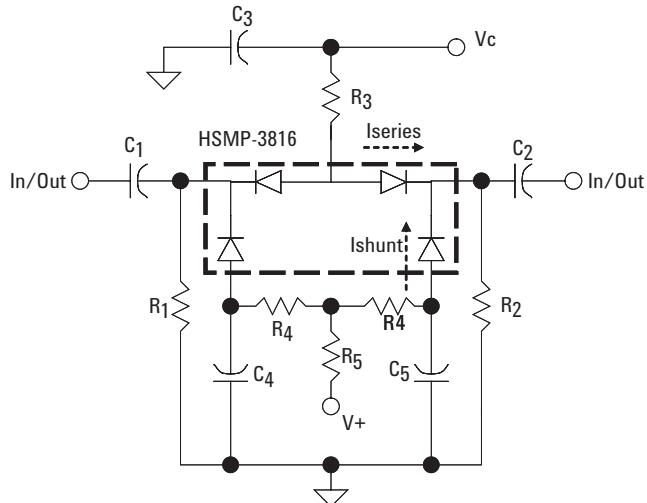

Figure 1. Wideband Quad PIN Diode π Attenuator Circuit
3. The Max Input Power is tested using demoboard as shown in Figure 1 at the worst-case (highest attenuation) bias condition of V+ = 5V, Vc = 0V.
1. Measurement above obtained using Wideband RF circuit design shown in Figure 1 & 2
1. Measurements above were obtained using Wideband RF circuit design shown in Figures 1 and 2.